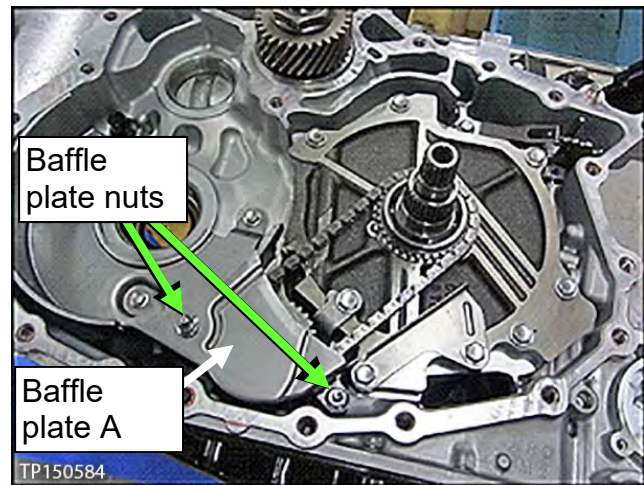

Figure 39
22. Remove the two (2) nuts from baffle plate A, and then remove baffle plate A (see Figure 39).